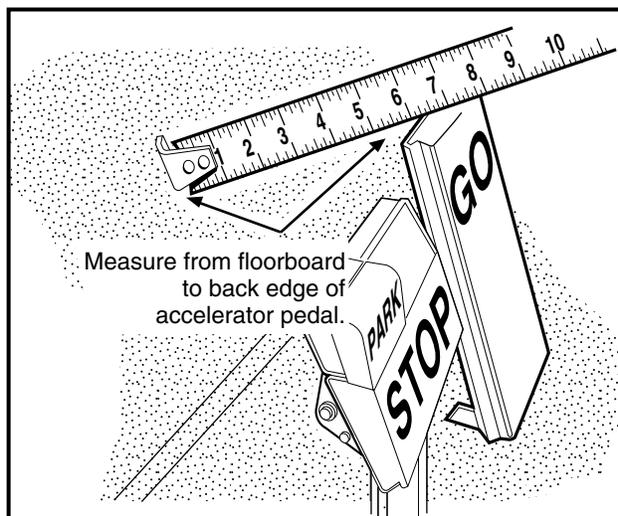

Figure 5-38 Accelerator Pedal Height Measurement
- 4.3. With the park brake unlocked, measure and note the distance from the top of the accelerator pedal to the floorboard, and then lock the park brake (**Figure 5-38, Page 5-23**).